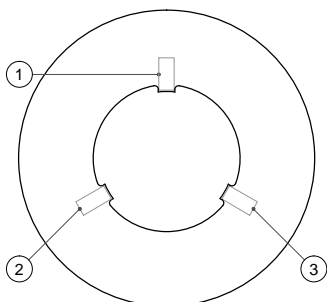

fig 2.
2. Fold out the Ceiling Tile Protector flat and remove the transfer paper on the x3No. sticky pads (See fig 2).